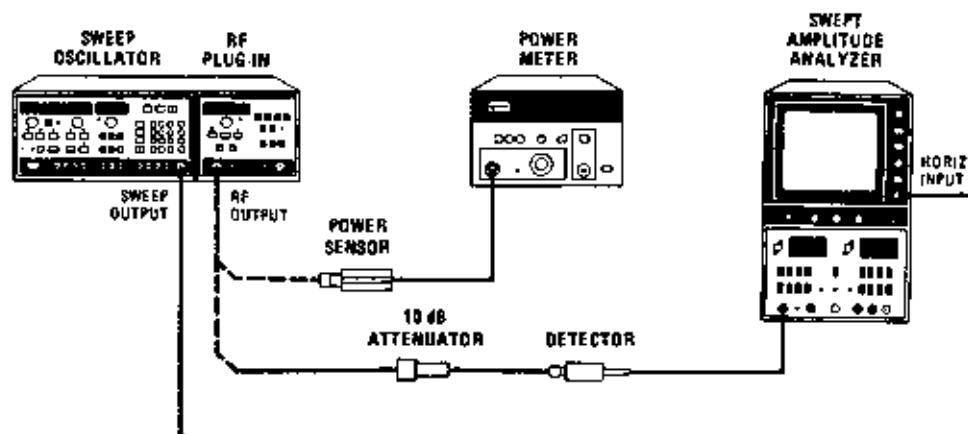

Figure 5-21. Power Calibration Test Setup
1. Connect equipment as shown in Figure 5-21, with the 8755C monitoring the RF output. Select 8350A **MOD**. Observe the full band trace and select a frequency where the power level is approximately in the center of the power variation range. Select **CW** mode at that frequency. Set **POWER** for a front panel indication of +0 dBm.